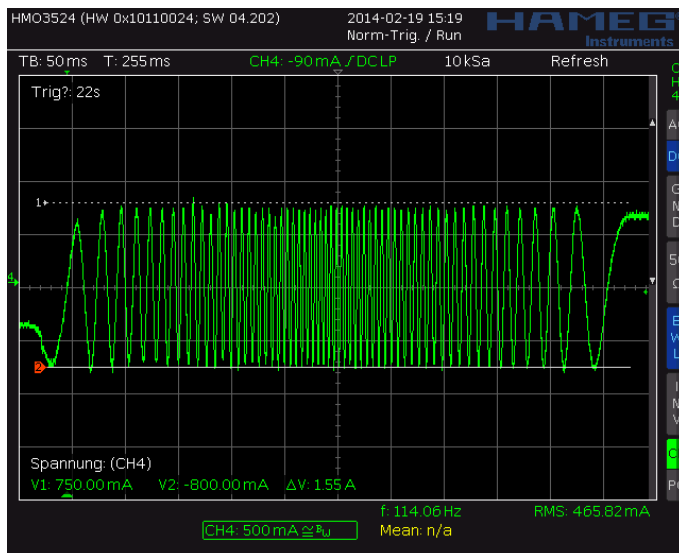
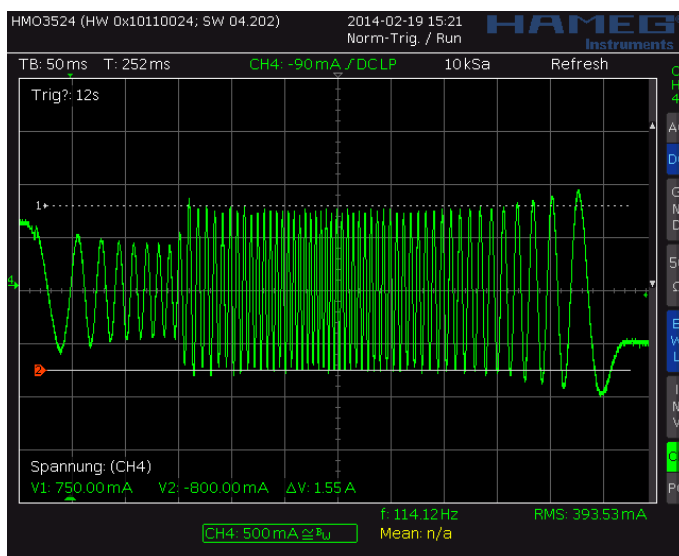
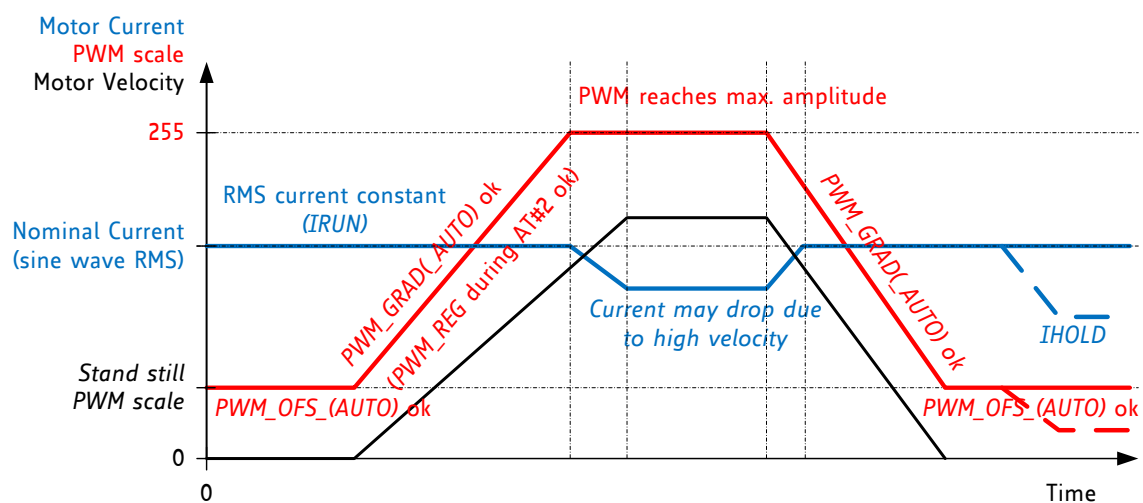

Figure 6.3 Scope shot: good setting for PWM_REG
Figure 6.4 Scope shot: too small setting for PWM_REG during AT#2
Figure 6.5 Successfully determined PWM_GRAD(AUTO) and PWM_OFS(AUTO)
In StealthChop voltage PWM mode, the autoscaling function (*pwm_autoscale* = 1, *pwm_auto_grad* = 1) regulates the motor current to the desired current setting. Automatic scaling is used as part of the automatic tuning process (AT), and for subsequent tracking of changes within the motor parameters. The driver measures the motor current during the chopper on time and uses a proportional regulator to regulate *PWM_SCALE_AUTO* in order match the motor current to the target current. *PWM_REG* is the proportionality coefficient for this regulator. Basically, the proportionality coefficient should be as small as possible in order to get a stable and soft regulation behavior, but it must be large enough to allow the driver to quickly react to changes caused by variation of the motor target current (e.g. change of *VREF*). During initial tuning step AT#2, *PWM_REG* also compensates for the change of motor velocity. Therefore, a high acceleration during AT#2 will require a higher setting of *PWM_REG*. With careful selection of homing velocity and acceleration, a minimum setting of the regulation gradient often is sufficient (*PWM_REG*=1). *PWM_REG* setting should be optimized for the fastest required acceleration and deceleration ramp (compare Figure 6.3 and Figure 6.4). The quality of the setting *PWM_REG* in phase AT#2 and the finished automatic tuning procedure (or non-automatic settings for *PWM_OFs* and *PWM_GRAD*) can be examined when monitoring motor current during an acceleration phase Figure 6.5.